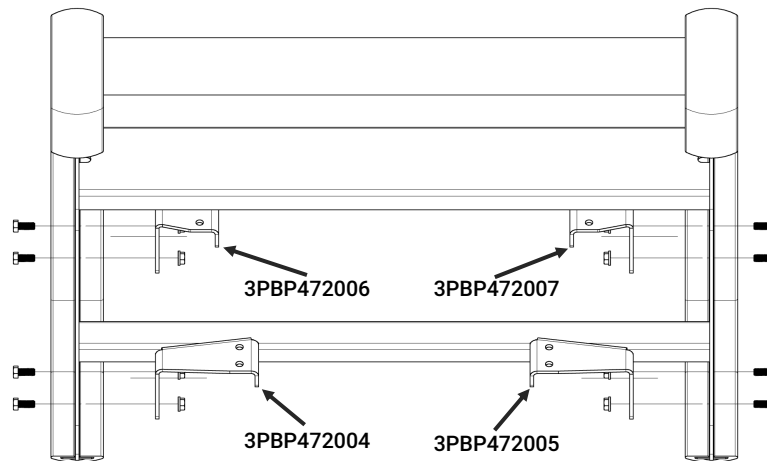

Figure 1
- Align the lower driver bumper bracket [3PBK472004] with the lower two holes on the driver side of the push bumper [4BPB472000]. Attach, finger tight, using (2) hex bolts [3X603] and (2) flange nuts [3X601] with the flange nuts on the inside of the push bumper. See Figure 1.
- Align the upper driver bumper bracket [3PBK472006] with the upper two holes on the driver side of the push bumper. Attach, finger tight, using another (2) hex bolts [3X603] and (2) flange nuts [3X601].